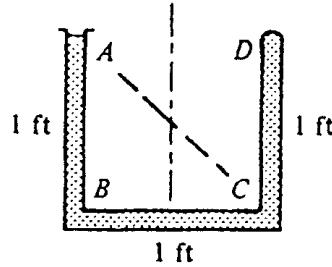

Fig. P2.151
**2.151** The U-tube in Fig. P2.151 is open at A and closed at D. What uniform acceleration  $a_x$  will cause the pressure at point C to be atmospheric? The fluid is water.